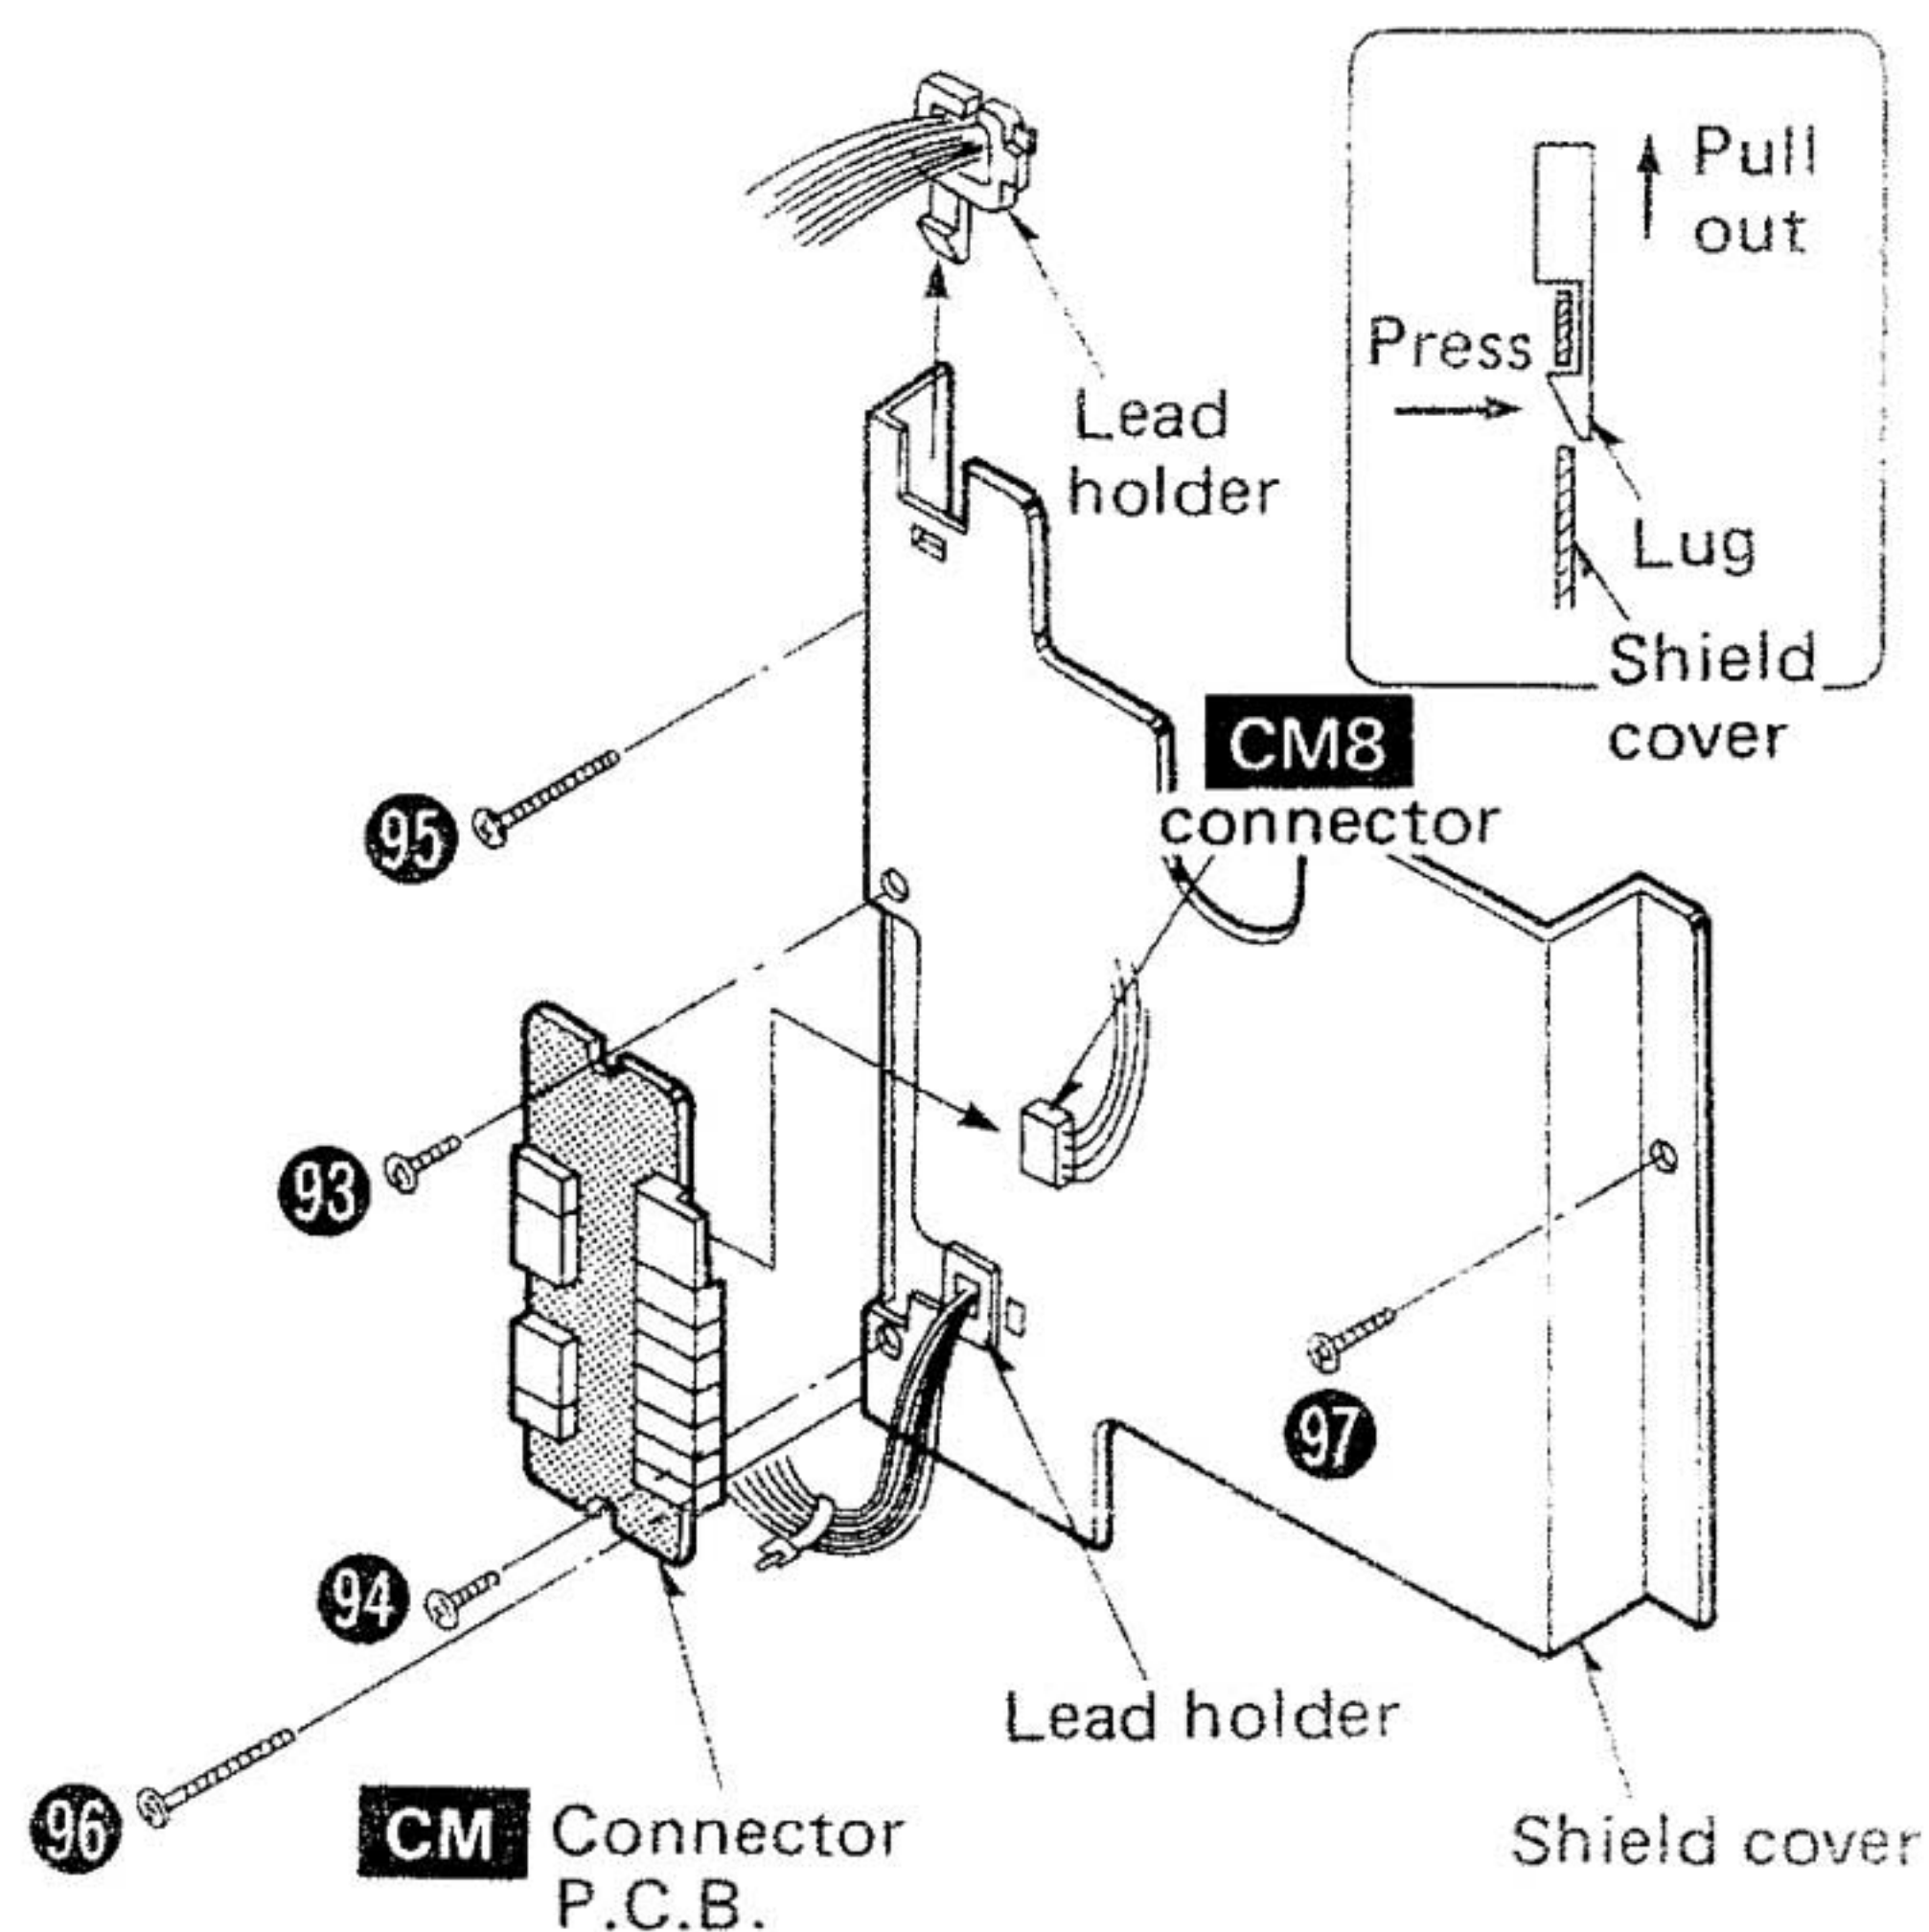

Fig. 16
4. Remove the 2 setscrews (Fig. 16 : 93 , 94 ) of the connector P.C.B., and then pull out the connector **CM8**.
6. Remove the 3 setscrews (Fig. 16 : 95 ~ 97 ) of the shield cover.